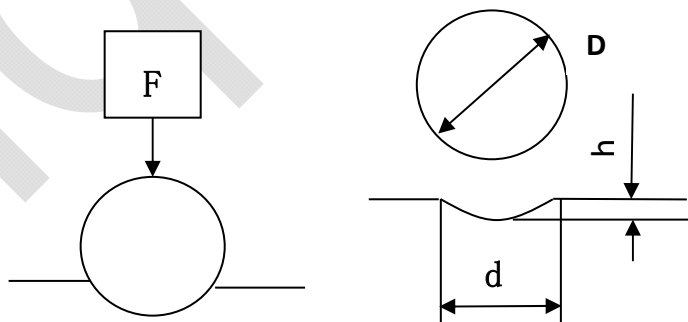

Fig.1
1.4 Brinell hardness test is to use a steel ball of a certain diameter to press on the specimen surface with specified test force (see Fig.1). After the specific time of holding test force, unload the test force and measure the average diameter of indentation of specimen surface with reading microscope. Then the Brinell hardness value can be checked out from the control table.